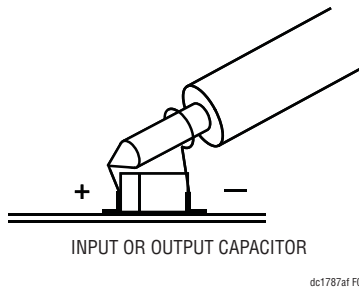

Figure 2. Proper Scope Probe Placement for Measuring Input or Output Ripple
**NOTE:** When measuring the input or output voltage ripples, care must be taken to avoid a long ground lead on the oscilloscope probe. Measure the input or output voltage ripple by touching the probe tip directly across the  $V_{IN}$  and GND, or  $V_{OUT}$  and GND terminals. See Figure 2 for proper scope probe technique.